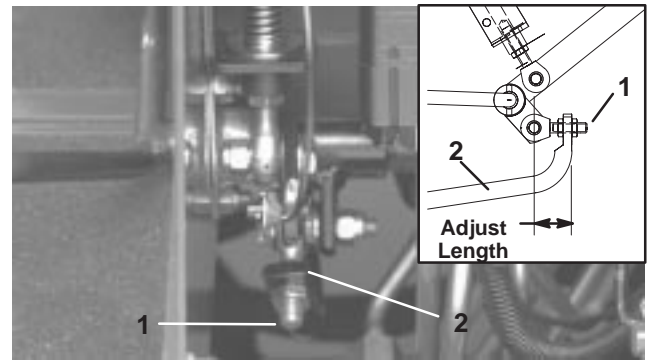

Figure 61
4. Adjust jam nuts on pump rod end to move pump control tube forward to eliminate forward creep or rearward to eliminate rearward creep (Fig. 61).